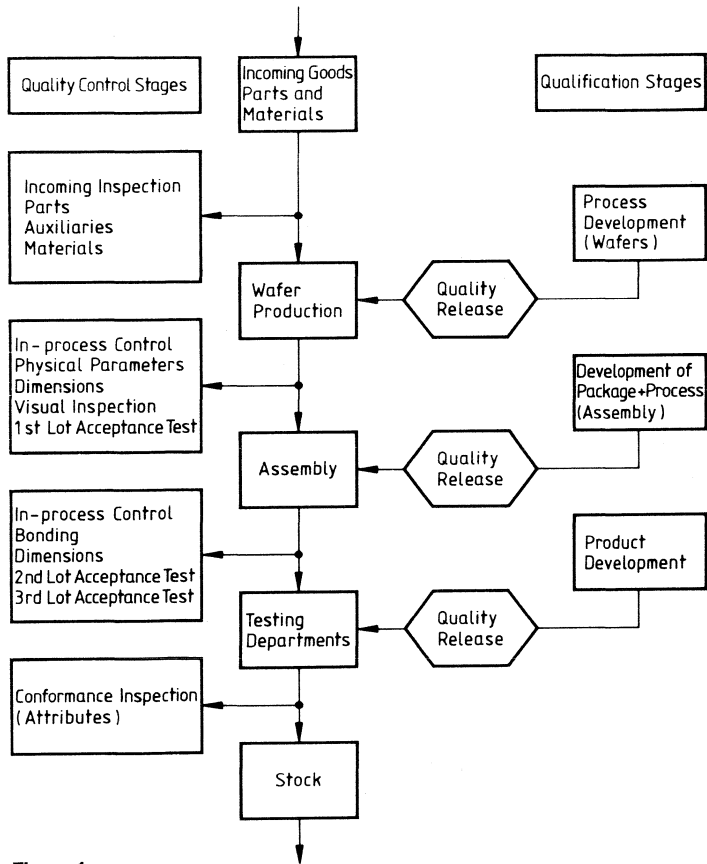

Figure 1
Figure 1 shows the most important stages of the "SQS-IC". A quality assurance (QA) department which is independent of production and development, is responsible for the selected control measures, acceptance procedures, and information feedback loops. This department has state-of-the-art test and measuring equipment at its disposal, works according to approved methods of statistical quality control, and is provided with facilities for accelerated life and environmental tests used for both qualification and routine monitoring tests.